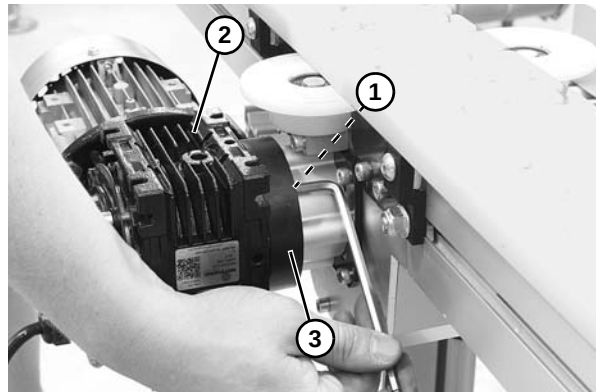

Figure 84
1. Remove four socket head screws (**Figure 84, item 1**). Remove drive package (**Figure 84, item 2**) from drive motor mounting bracket (**Figure 84, item 3**).